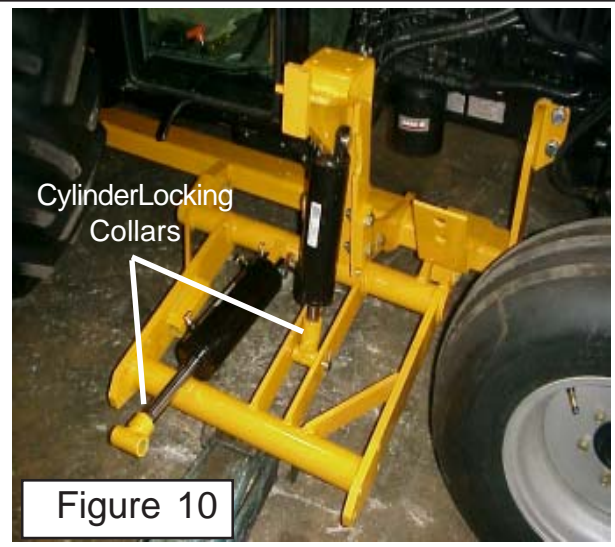
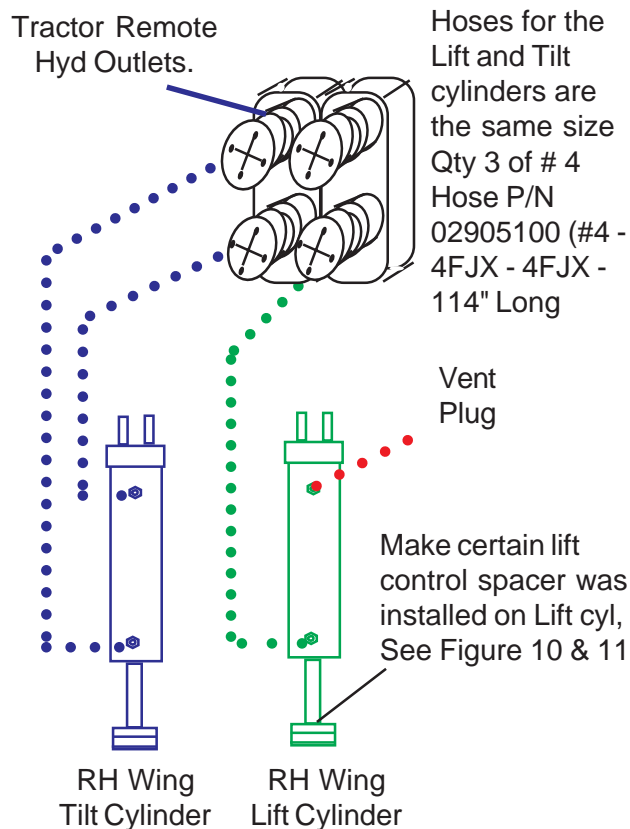

Figure 10
Figure 12
12. Install Hydraulic Cylinders. Install the hydraulic cylinders as shown. The ends will have to be installed on the rod ends, Note the collars on the cylinders. These collars have locking bolts in them and must be installed with the bolts to the top where they are accessible after assembly is complete (See Figure 10).
13. Check the Lift and Tilt Cylinders. check to make certain that when the Lift cylinder and the Tilt Cylinder were installed the grease fittings and the locking collars are pointed in the right direction (See Figure 12 & 13). When installing these they must be installed with the rod end clevis grease fitting facing up and out (See Figure 10, 11 & 13). Do not remove any shipping plugs from cylinders or hoses until you are ready to install the hoses, this will keep the system and components clean while unit is being assembled.
14. Connecting Cylinders To Control Valve. When the tractor hydraulics are used to supply and operate the cylinders there will not be a control valve shipped with the mower. The hydraulic cylinders will connect direct to the tractors remote outlets and the tractor controls will be used (See Figure 12). The three hoses used to connect the hydraulic cylinders to the tractor are all the same size and length (See Figure 12).